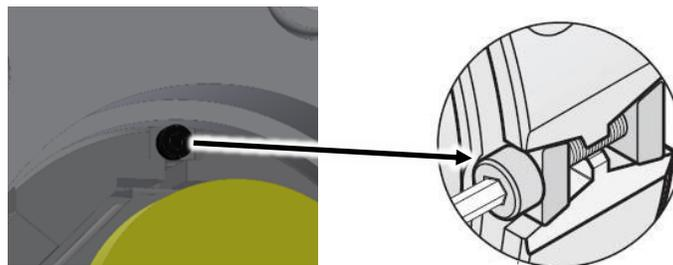

Figure 38
8. Tighten the bolt (M2.5) of the encoder collar with the torque wrench and socket Allen wrench (2mm) to 9 in-lbs. through the encoder cover hole. See Figure 38.